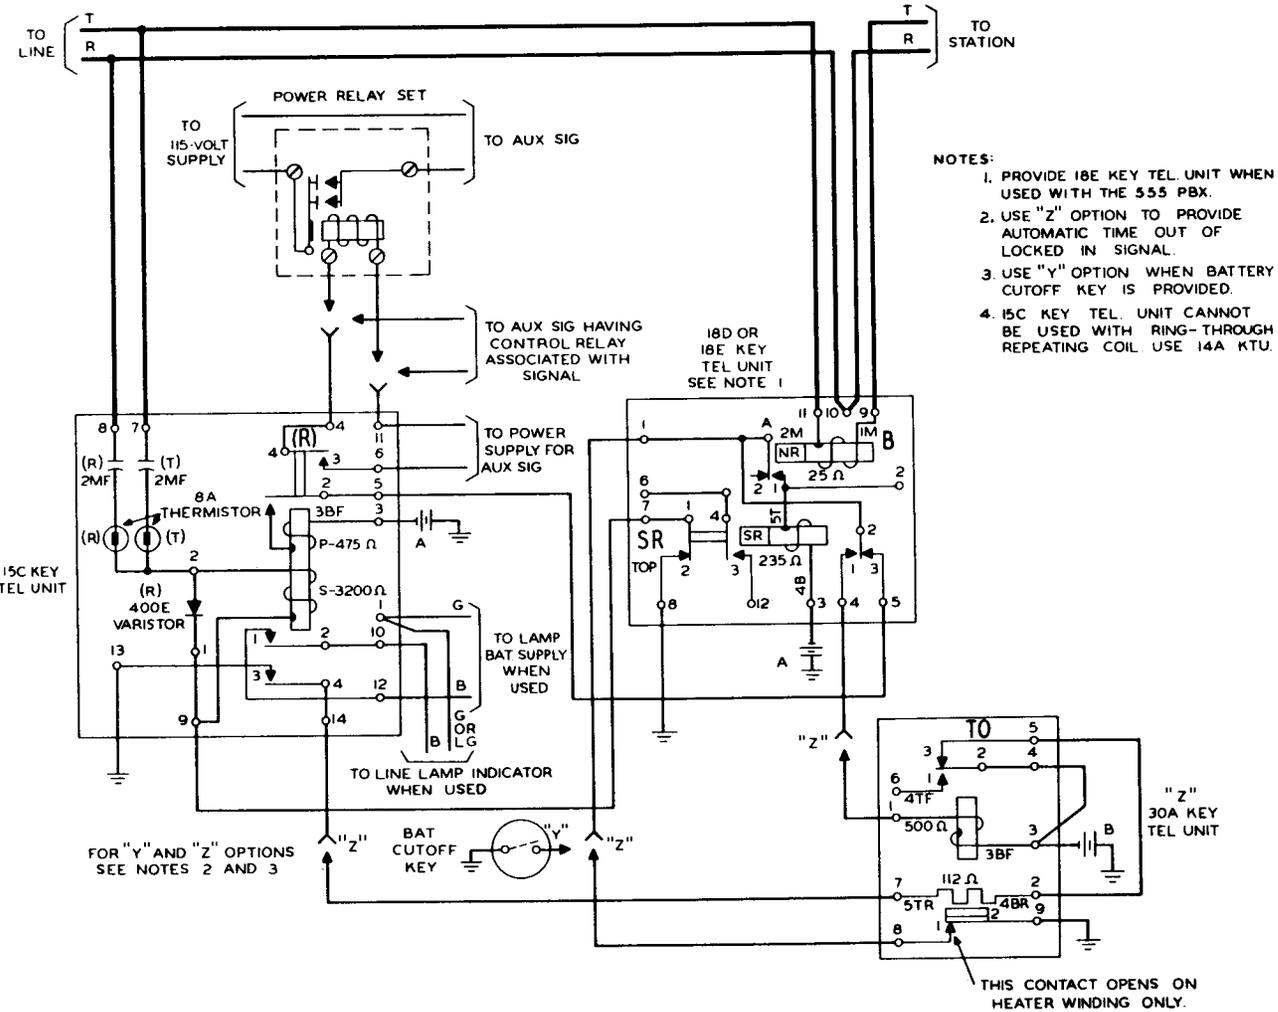

Fig. 8 - Connections and Circuit Operation for Continuous Auxiliary Signals
2.08 Continuous operating signals, either low voltage or power operated, should be connected as shown in Fig. 8. Low voltage signals connect directly to the 15C key telephone unit.
3.01 The circuit operates as follows (Fig 8):